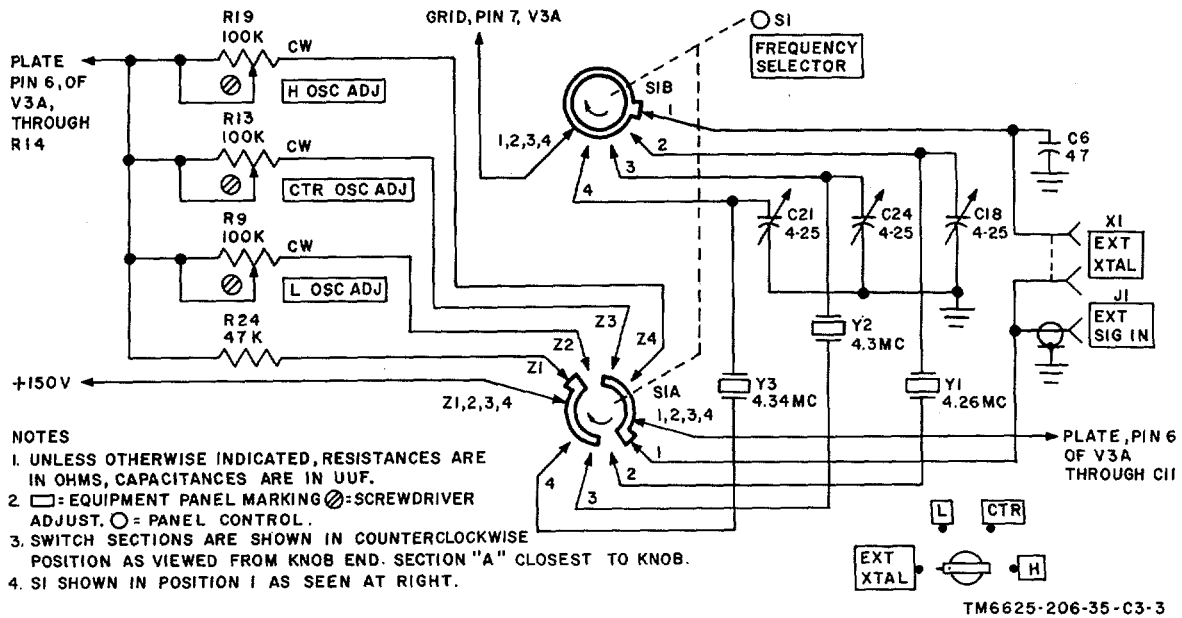

Figure 3.1. FREQUENCY SELECTOR switch S1 (AN/URM-113A).
Add figure 3.1, after -figure 3:
a. EXT SIG IN jack is provided on the front panel to facilitate connection of additional frequencies into the test set (fig. 3.1, TM 116625-206-12).
d. VTVM jack is provided on the front panel to facilitate connection of a de voltmeter into the test set meter circuit (fig. 3.1, TM 11-6625-206-12).